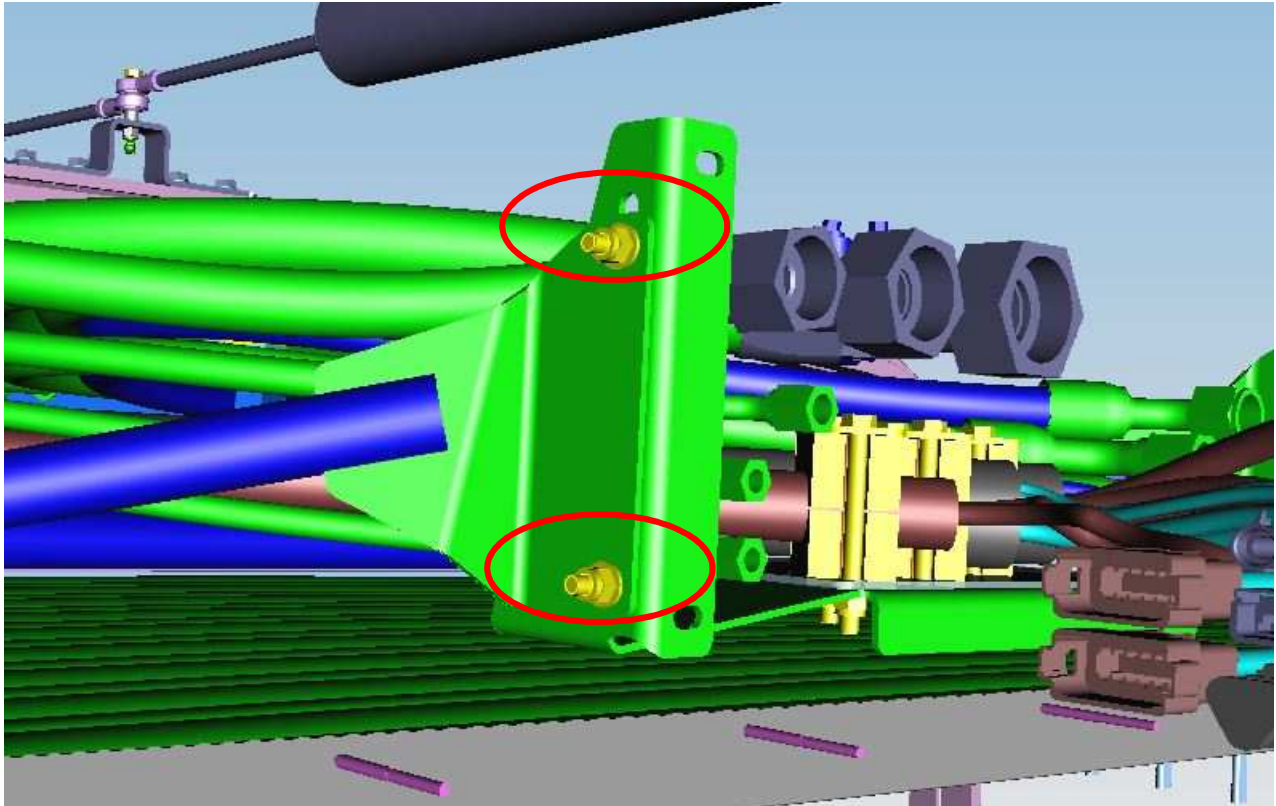

Figure 4: Remove the hose support hardware
5. Remove the hardware that mounts the hose support. Figure 4.